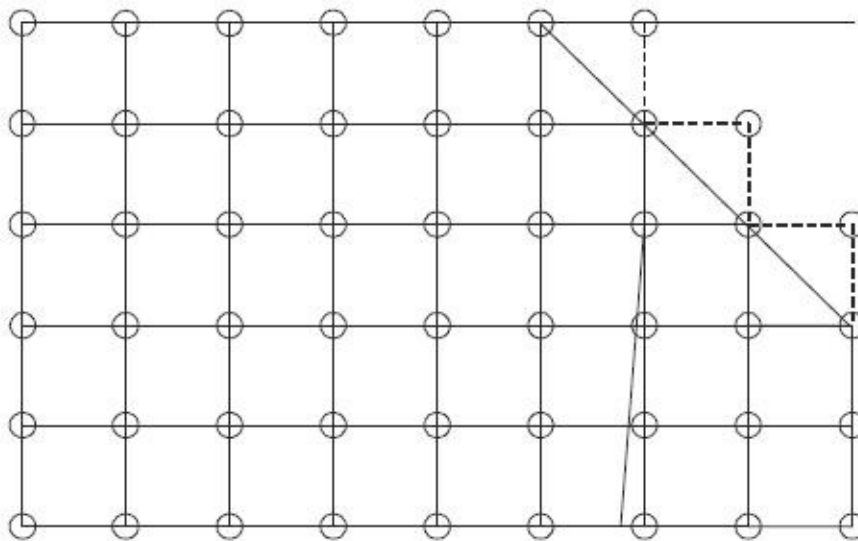

Fig. 1.5 FDM approximation of shape
3. FDM makes stair type approximation to sloping and curved boundaries as shown in Fig. 1.5. FEM can consider the sloping boundaries exactly. If curved elements are used, even the curved boundaries can be handled exactly.